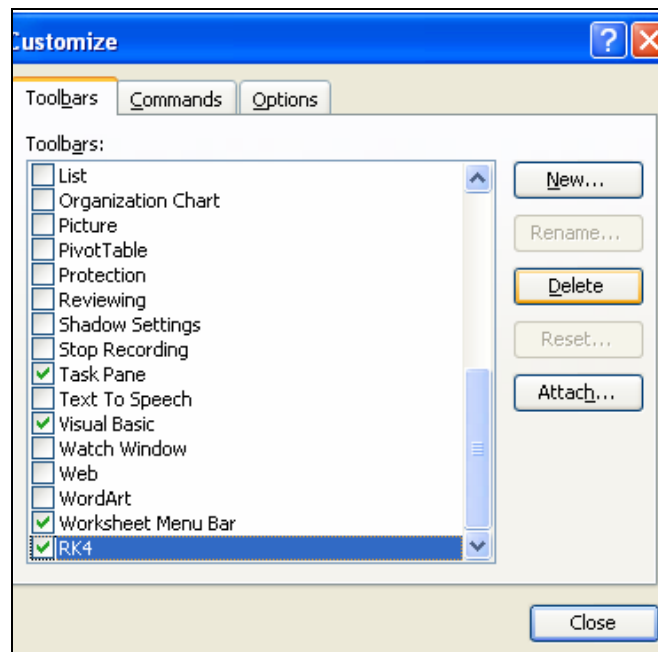

Figure 1b.
2. A new window should appear (see Figure 1b). Under the **[Toolbars]** – tab, drag the scrollbar all the way down and select **[RK4]**. The check-mark will not change, but the **[Delete]** button should become enabled. Click **[Delete]** and click **[OK]** when prompted. Then click on **[Close]** to exit the Customize window. (Note: if **RK4** had not been uninstalled according to procedure above, then the **RK4** toolbar will not be permanently removed.)